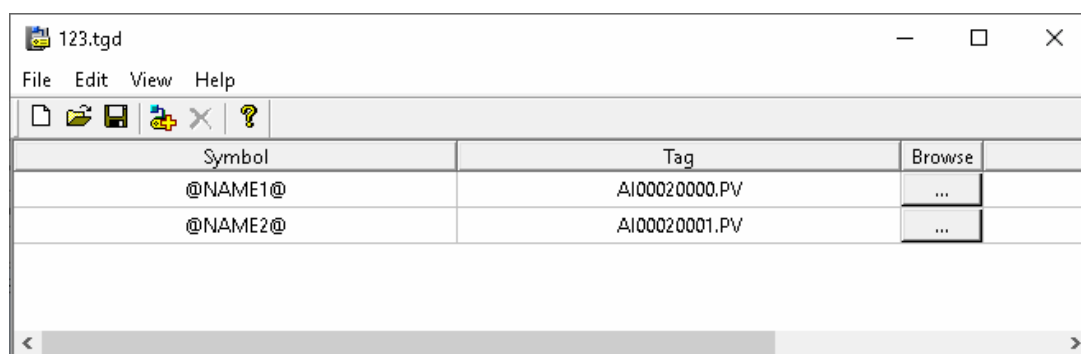

Figure 4-31 Editing interface of Tag Group Editor
12. Click **Edit** and the Tag Group Editor interface pops up, shown in Figure 4-31.